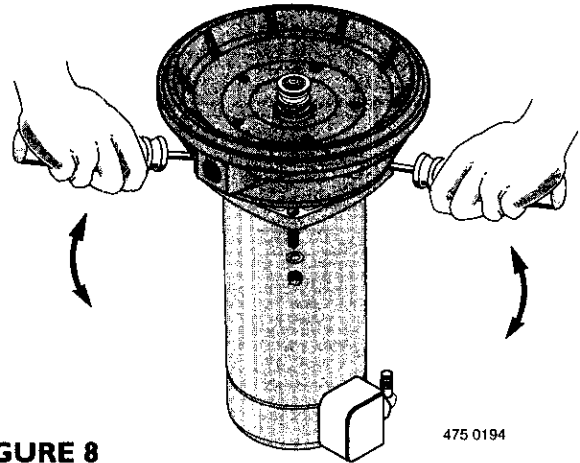

FIGURE 8
3. Remove pump back half from motor by unscrewing four (4) nuts. Pry back half off motor by inserting two (2) screwdrivers between the back pump half and the motor flange. This will force rotating portion of seal off shaft. See Figure 8.